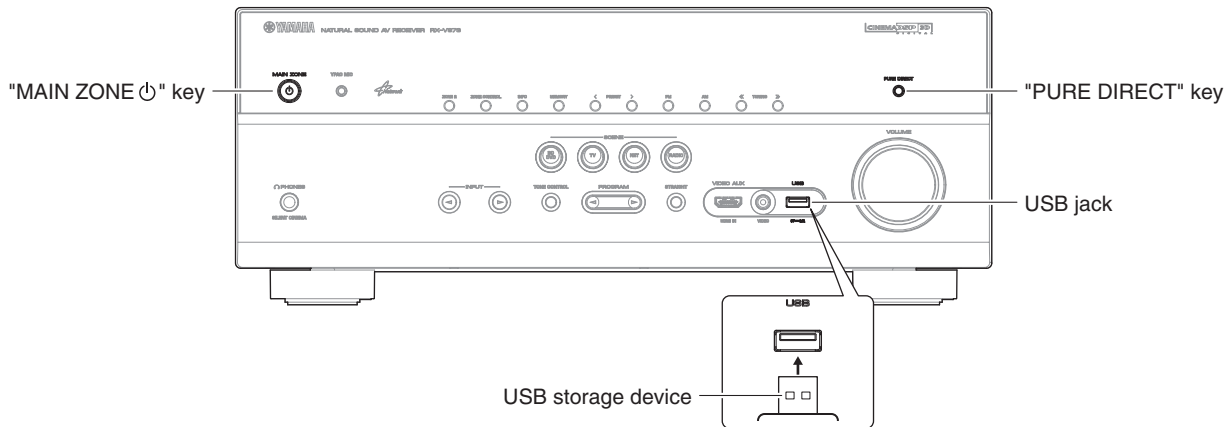

Fig. 1
1. Insert the USB storage device to the USB jack. (Fig. 1)
2. While pressing the “PURE DIRECT” key, connect the power cable to the AC outlet. (Fig. 1)
5. Press the “MAIN ZONE ⏻” key to turn off the power. (Fig. 1)
6. Remove the USB storage device from the USB jack. (Fig. 1)